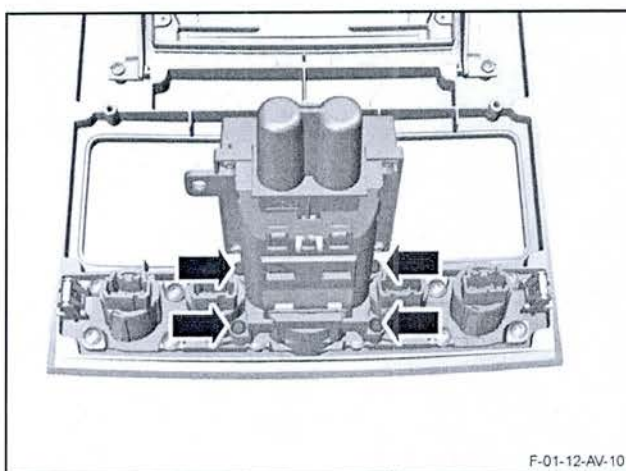

Figure 11
18. Install the ignition switch module. (refer to Figure 11).